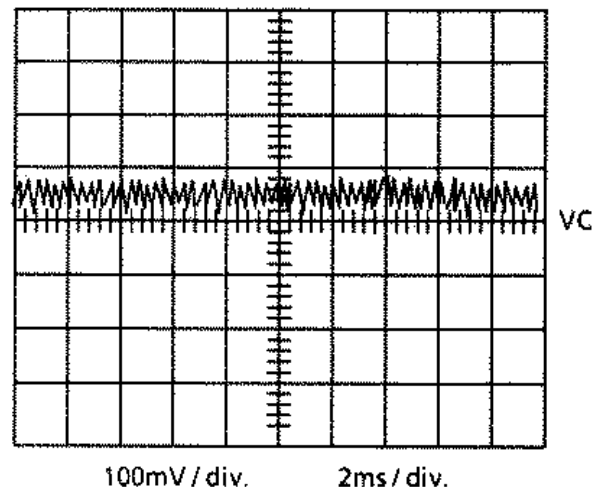

Fig. 1
1. Connect an oscilloscope to TP 501 pin(FE) and TP 501 pin8 ( VC ).
3. Adjust R522 (F.GAIN ADJ.) so that the correct waveform as shown in figure 1 is obtain.